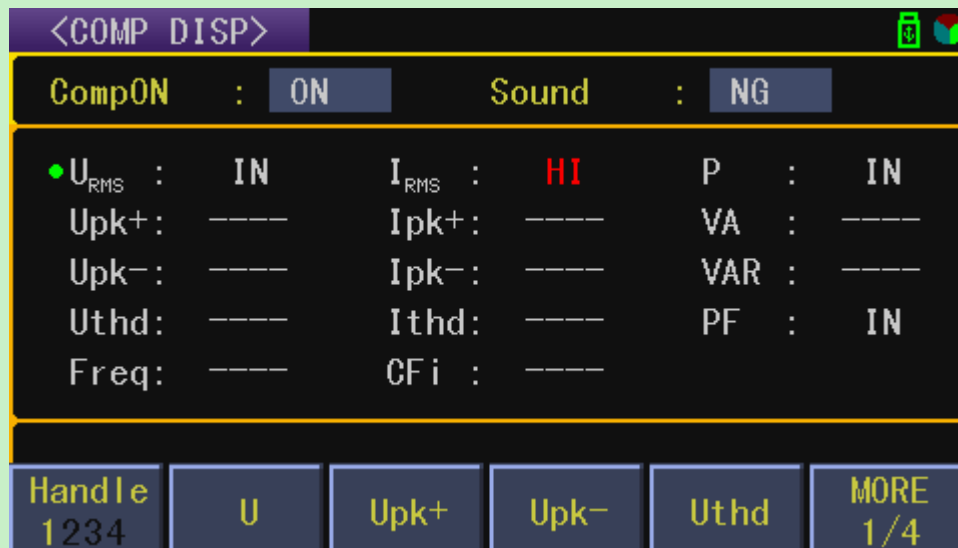

Figure 4-5 Compare display interface
Press <DISP> and select the **COMP DISP** soft key to enter into the <COMP DISP> page shown as figure 4-5.
The default parameters of the four channels are the voltage (U), current (I), power (P), and power factor (PF). The parameters that can be set are shown in Figure 4-5 of the <COMP DISP> page.
- 1) Move the cursor in the COMP DISP area (that is, at the initial position of the page), and the screen soft key area is displayed as shown in Figure 4-5.
The parameters that can be set are shown in Figure 4-5 of the <COMP DISP> page and their